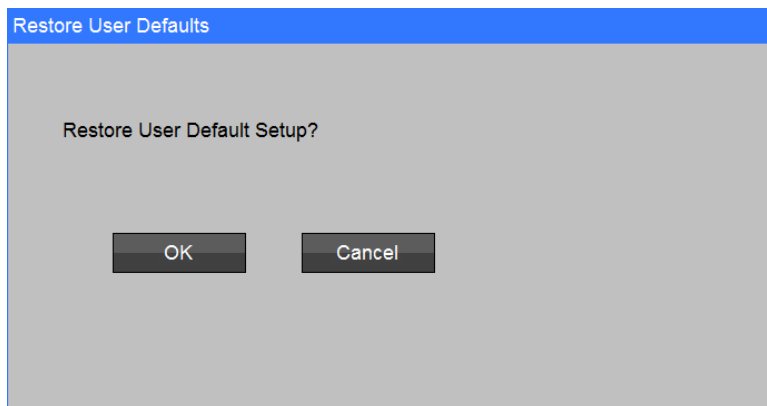

Figure 45: Restore User Defaults Screen
- 2) Press Restore User Defaults to restore the default values (refer to Figure 45).